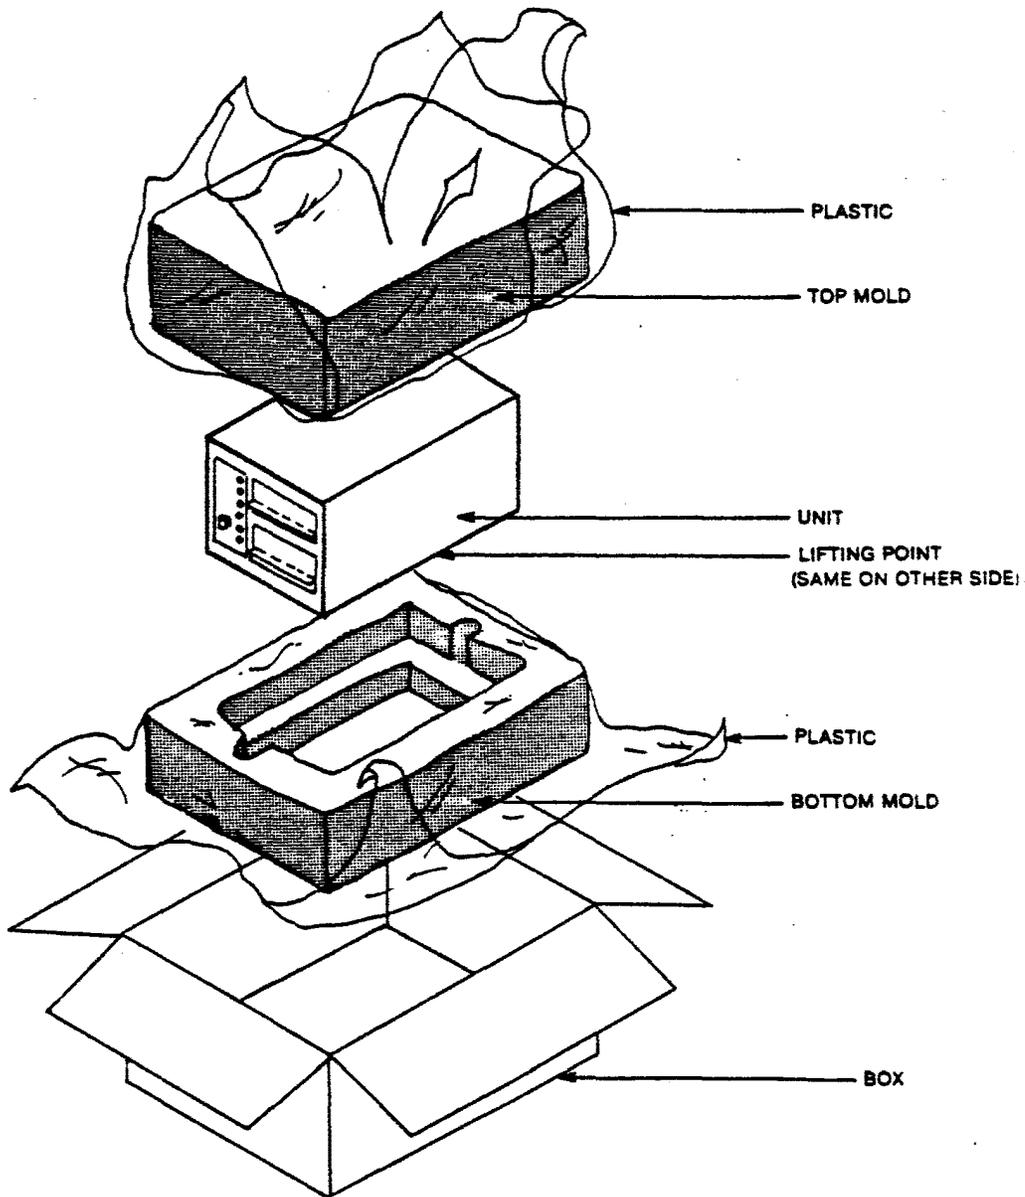

Figure 3-1 Packaging Components
Refer to Figure 3-1 for packaging components. To avoid equipment damage, unpack the equipment as close as possible to the installation site. Proceed as follows:
- d) Lift the unit out of the box. (Refer to Figure 3-1 for lifting points.)